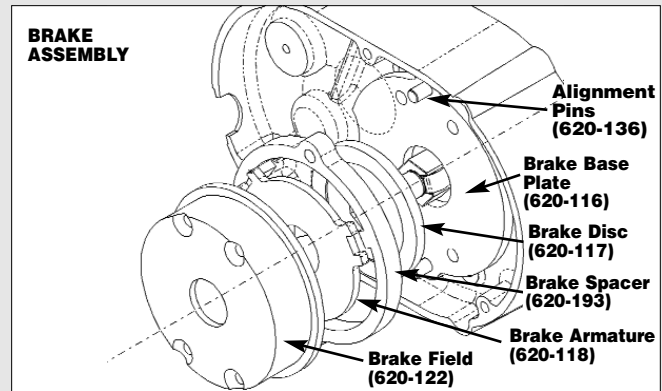

Figure 8B
1. Refer to Figure 8B and disassemble the brake. Depress and hold the field assembly (620-122) while removing the four brake screws (620-124). The field assembly is under spring pressure and will spring-out if not held. During disassembly, note there is a small leaf spring (620-121) on the brake driver (620-119) and this will spring-out when the brake disc (620-117) is removed. Examine the base plate (620-116), hex driver (620-119), brake disc (620-117) and armature (620-118) for excessive wear, scoring or warpage. Make sure the brake disc is not glazed, the coil firmly fixed in the field (620-122) and the brake spring (620-123) is not damaged. Worn, scored, warped, glazed or damaged parts should be replaced before proceeding.